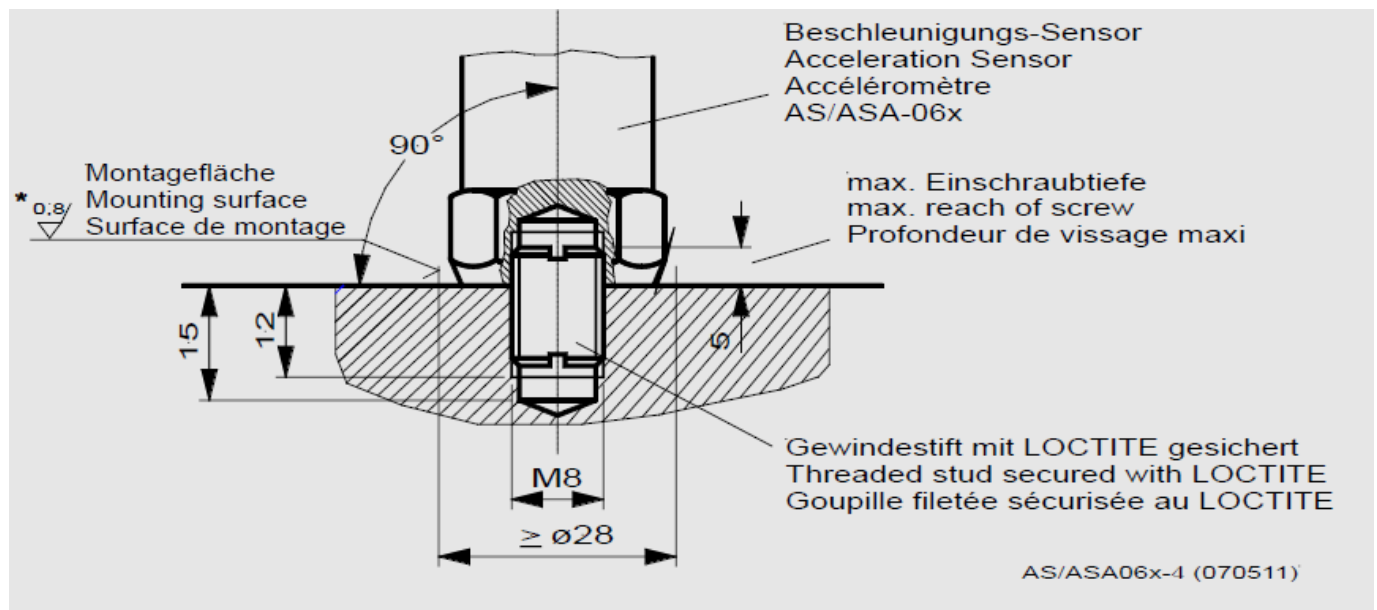

Fig. 4 Mounting
- Screw the M8, resp. 1/4", stud into the mounting surface in accordance with Fig. 4 and secure it with adhesive, e.g. LOCTITE 243 medium strength, or LOCTITE 270 high strength